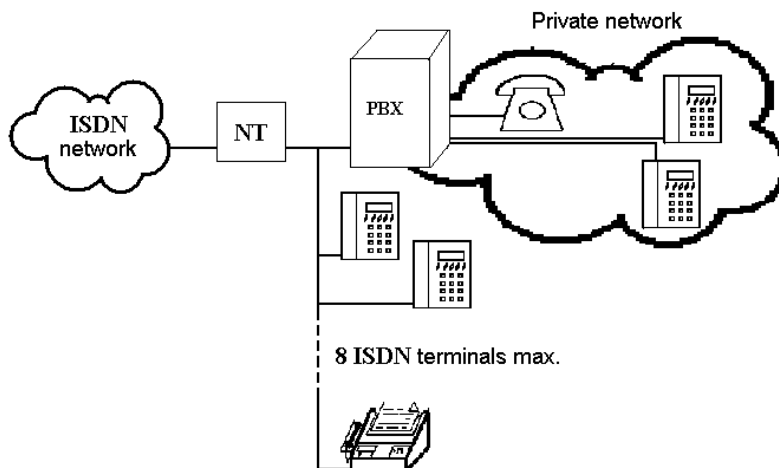

Fig. 15 - Point-to-Multipoint Connection
Point-to-Multipoint (EuroISDN with MSN) is another type of ISDN terminal interconnection. Here the network terminal (NT) is interconnected with up to eight ISDN terminals through a 4-wire passive bus as shown in Fig. 15.